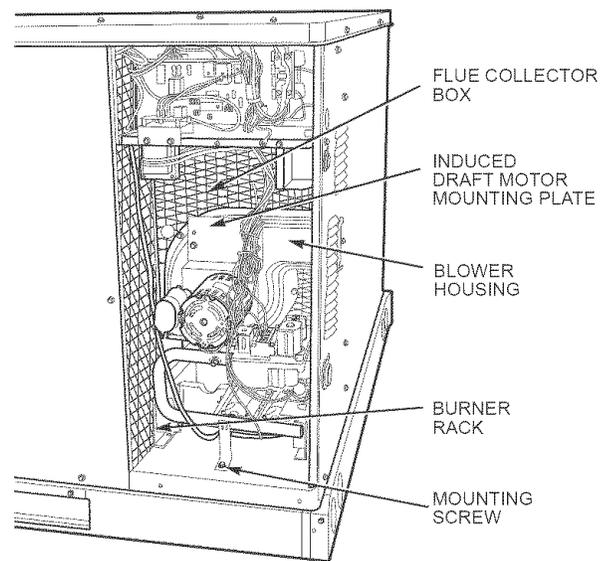

Fig. 24 — Blower Housing and Flue Collector Box
2. Remove the 3 screws holding the blower housing to the flue collector box cover (see Fig. 24).
3. Remove the 12 screws holding the flue collector box cover (Fig. 24) to the heat exchanger assembly. Inspect the heat exchangers.
2. Remove the 7 screws that attach induced-draft motor mounting plate to blower housing. (See Fig. 24.)
7. Remove the mounting screw that attaches the burner rack to the basepan. (See Fig. 24.)
8. Slide the burner rack out of the unit. (See Fig. 24 and 27.)